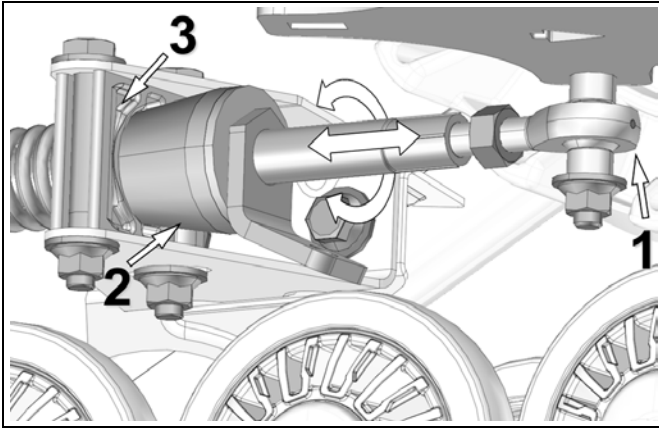

Figure 18
- Turn stabilizing arm to adjust length of rod end (1) so that rubber cone (2) applies light pressure on anti-rotation retainer (3). See Figure 18.